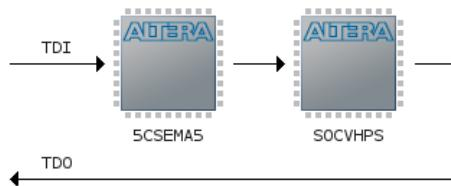

Figure 9-20. JTAG Scan Chain
You should now see 2 devices on the JTAG scan chain, as shown in Figure 9-20.
45. Right-click on the “5CSEMA5” device shown in Figure 9-20 and choose “Edit > Change File”. Then, select “DE1_SoC_demo/hw/quartus/output_files/DE1_SoC_demo.sof” through the file browser.